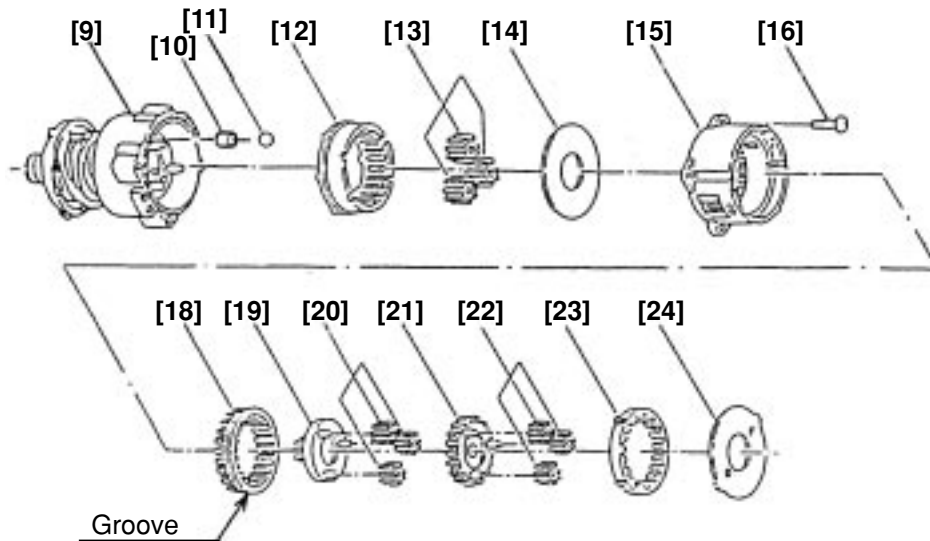

Fig. 10
(3) Reassembly of the gear unit
- (b) Install the parts series from the six Rollers [10] to Washer (B) [24] into the assembly reassembled in step (2). (See Fig. 10.)